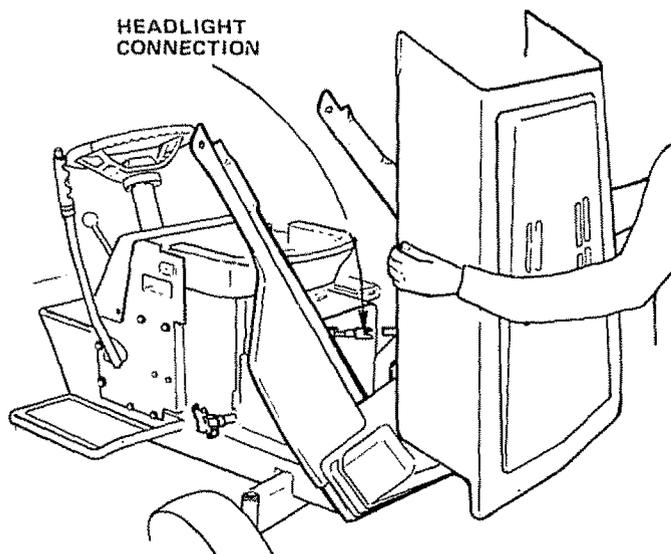

FIGURE 8
- Unsnap Headlight Connection (Fig. 8).
- Stand in front of Tractor. Grasp Hood and tilt forward and lift off (Fig. 8).